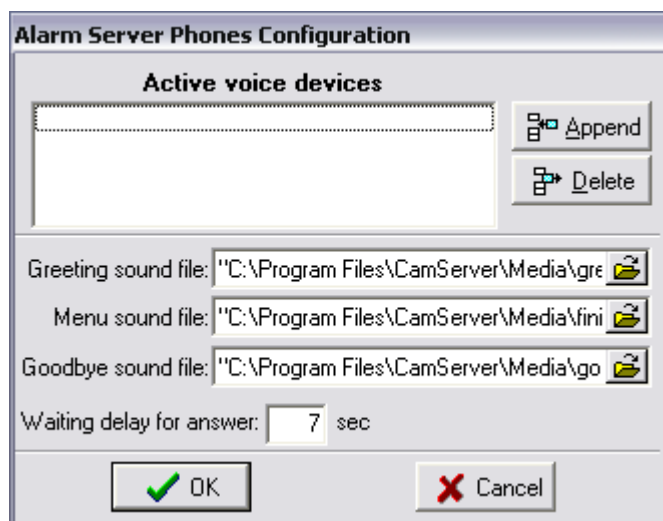

Fig 65. Alarm Server — Phones Configuration
2. In the **Alarm Server — Phone Configuration** select appropriate sound files and **Waiting delay for answer** (Fig 65).